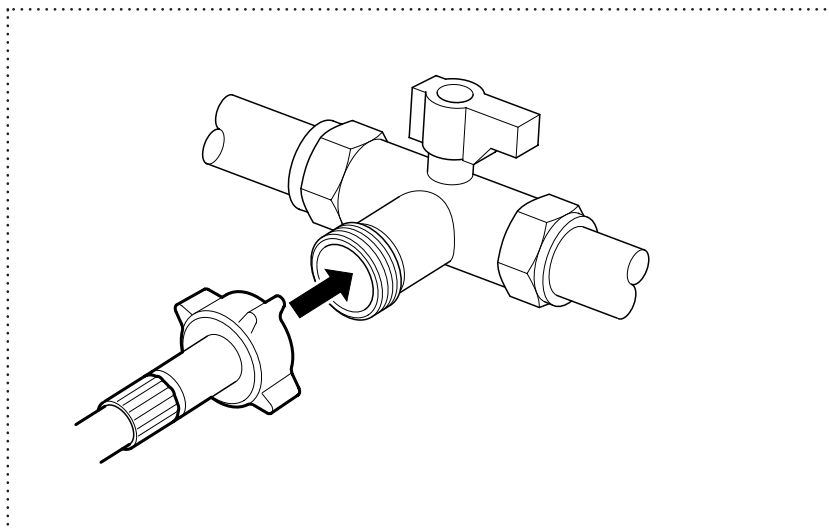

Figure 8
- 2 Screw the straight end of the hose clockwise to a 19mm (3/4") cold water tap until hand tight (fig 8). Take care not to trap or kink the hose.